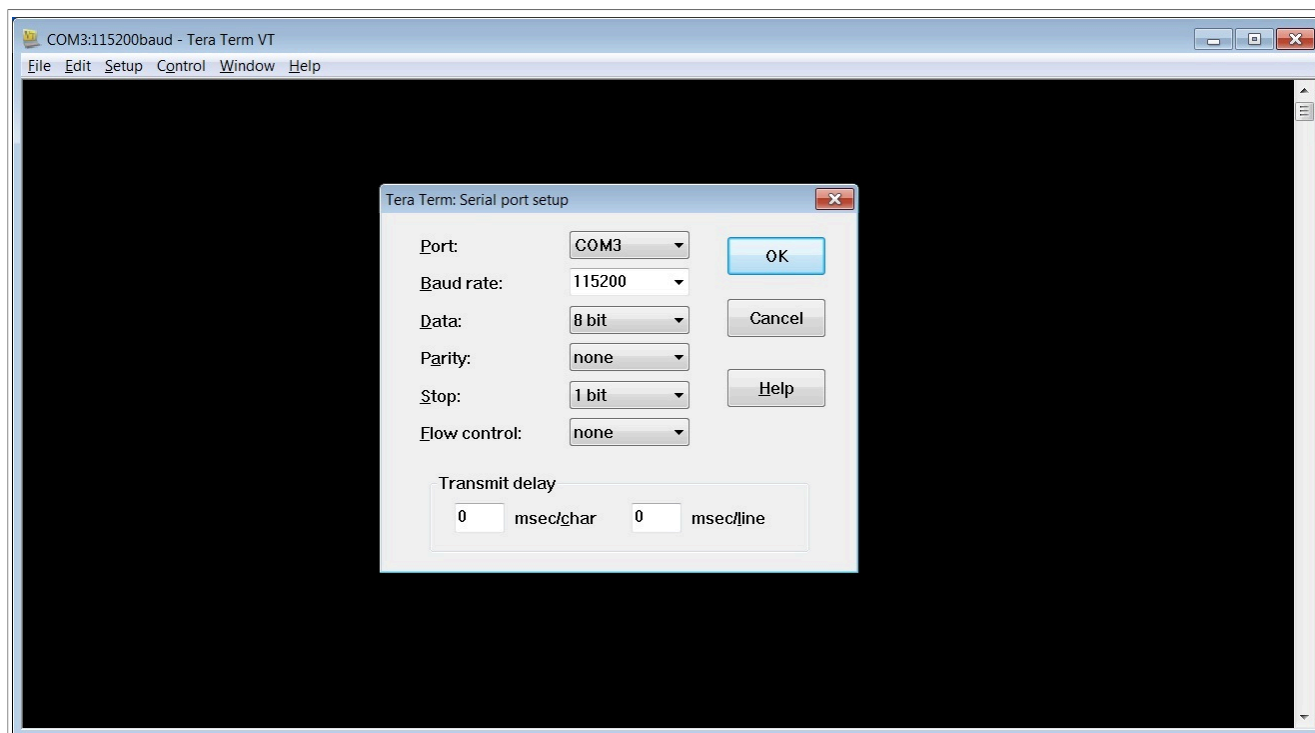

Figure 17. Connecting to the i.MX console via a terminal
5. Install a Terminal emulator on the Laptop for enabling console display of the i.MX boards through the serial/USB ports, as shown in the Figure 17.